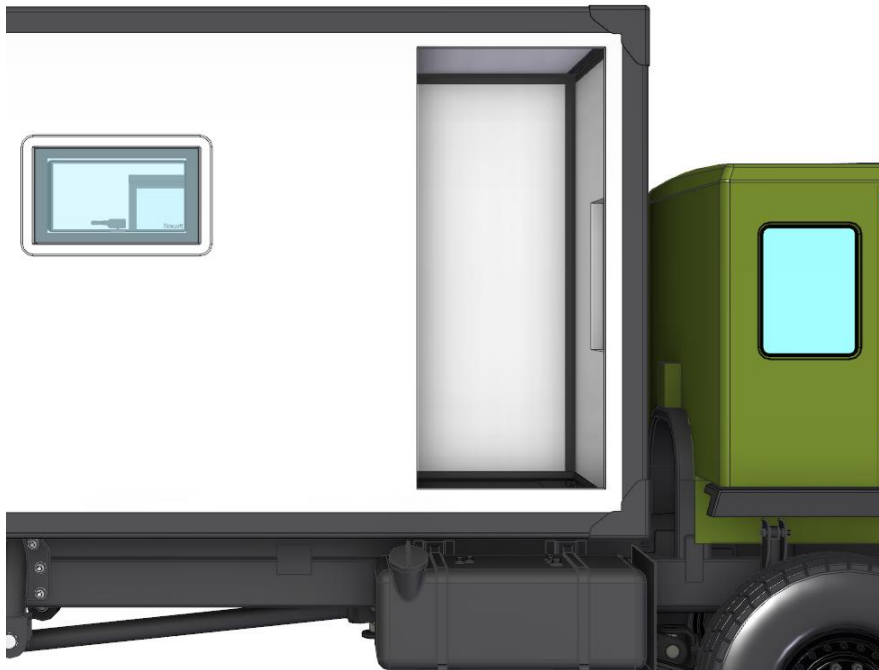

Figure 2: Cut Door Hole
- 10.2. Using a Jigsaw, with a 100mm blade, or better still a Circular Saw (either wood or metal blade based on your panel spec), cut out the centre of the door hole following the drawn lines made in point 9.2. Now, your panel should look like Figure 2.